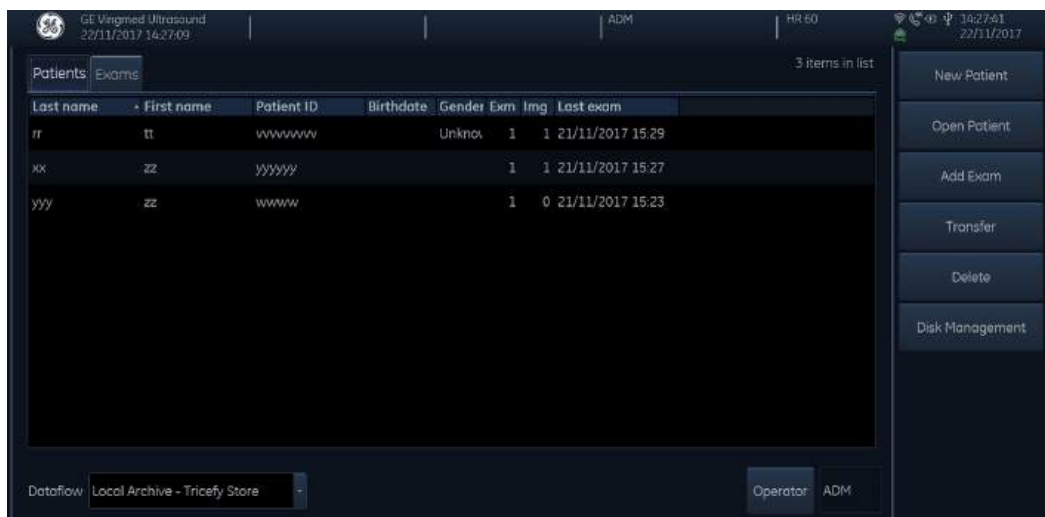

Figure 10-76. The Patients/Exams list
1. Press **Transfer** from the Patients/Exams list (see Figure 10-76).
The *Transfer screen* is displayed (see Figure 10-76)